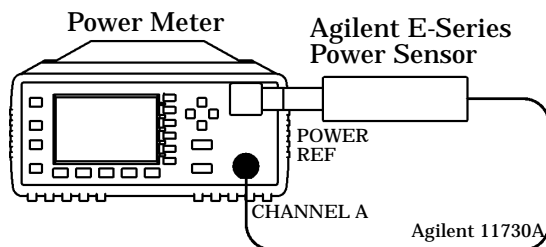

Figure 2-4: Sensor Functional Test Setup
1. Connect the equipment as shown in Figure 2-4.
12. Disconnect the 30 dB attenuator and reconnect as shown in Figure 2-4.